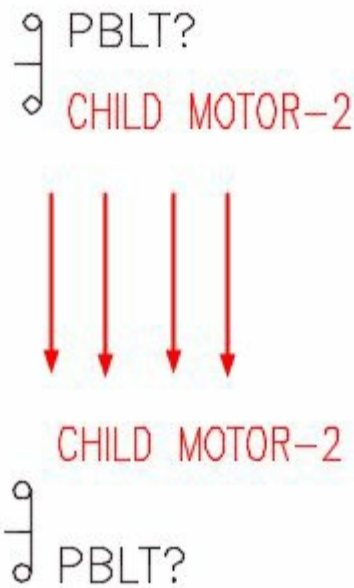

Figure-34. Reverse component
- Select the component, it will get flipped or reversed as per the selected option. Refer to Figure-34.